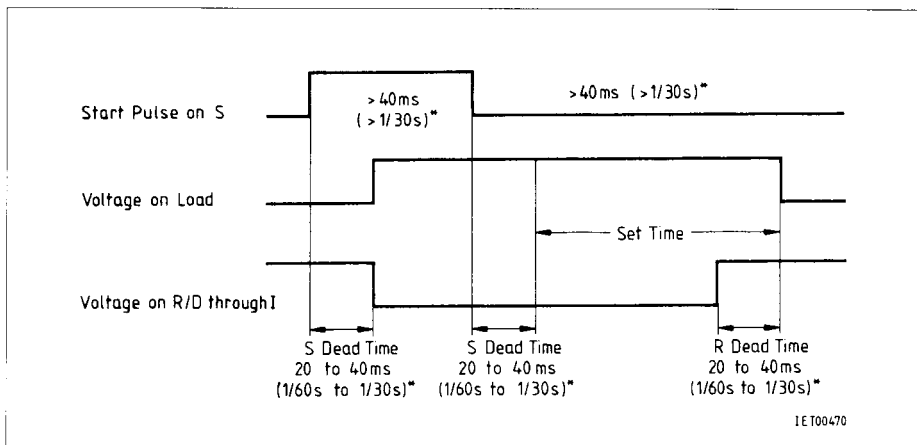

Figure 2
2. Dropout delay to DIN 46120 (figure 2)